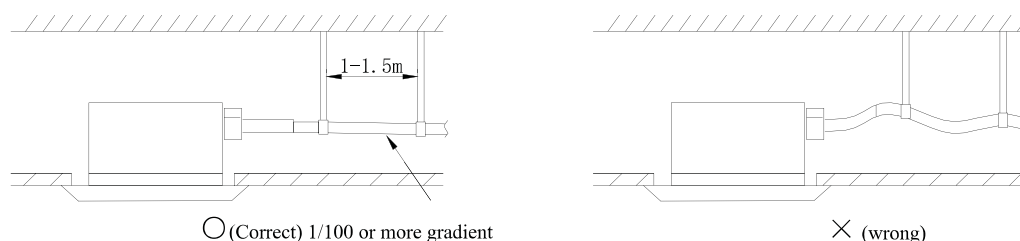

Figure 1-3-8
- ◆ To prevent bent of the drain hose, the distance between hoisting stand should is 1 to 1.5m. (As shown in Figure 1-3-8)